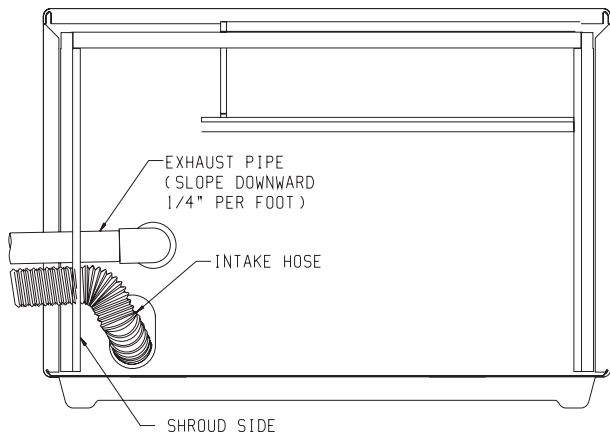

Figure 8
- Whenever a horizontal vent run is used, where local codes allow, you can slope the exhaust pipe downward, to the outside, 1/4" (6mm) per foot (.3m). The downward slope on the exhaust pipe will allow any condensate to flow out of the exhaust pipe. See Figures 8 and 9.